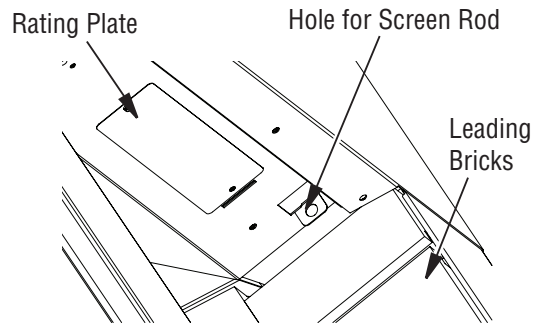

Figure 35 - Installing Fireplace Screen
2. Insert the round end screen rod into hole on the left and right side of smoke shelf (Figure 35).